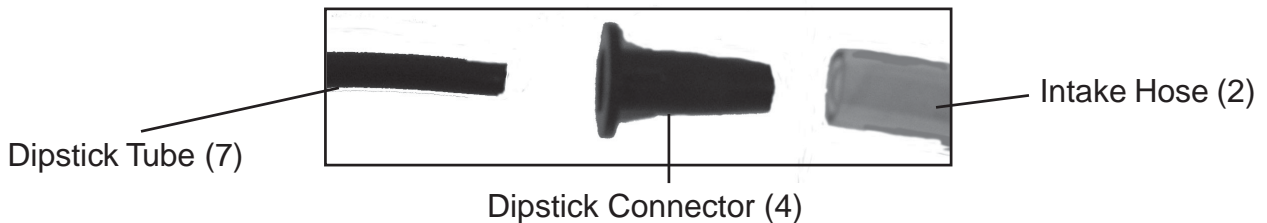

Figure 2
1. Follow Steps 1-2 and then insert the Dipstick Connector (4) into one end of the Dipstick Tube (7). Insert the Dipstick Connector (4) into the end of the Intake Hose (2). See Figure 2.